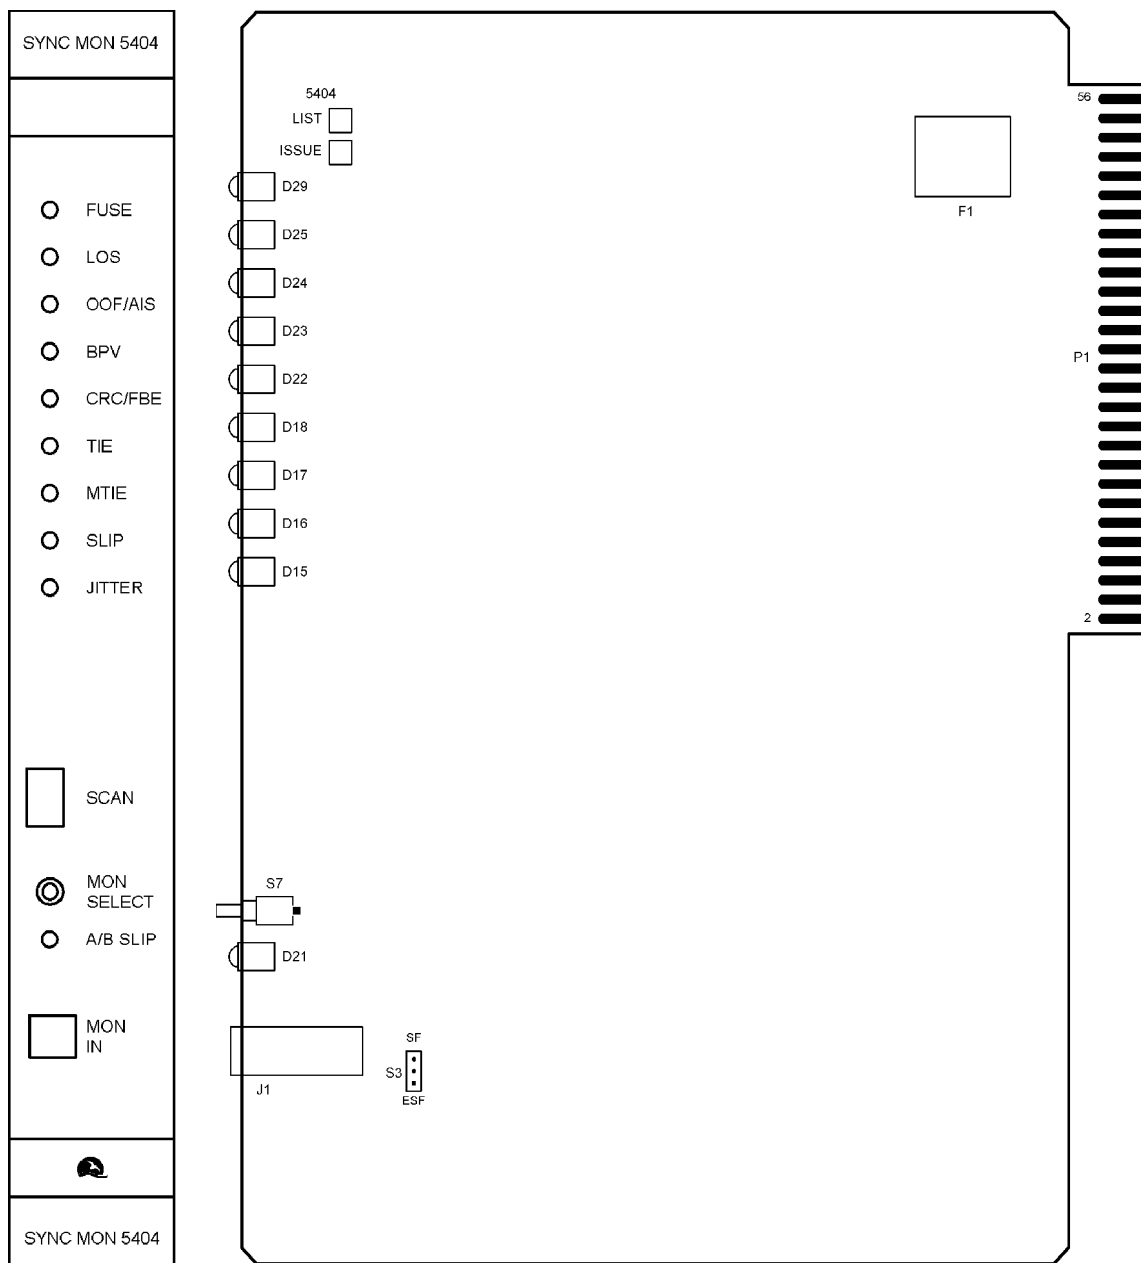

Figure 3-5. Model 5404 Synchronization Monitor Card with Front Panel
3.341 For switch locations and front panel of the Model 5404, refer to Figure 3-5.